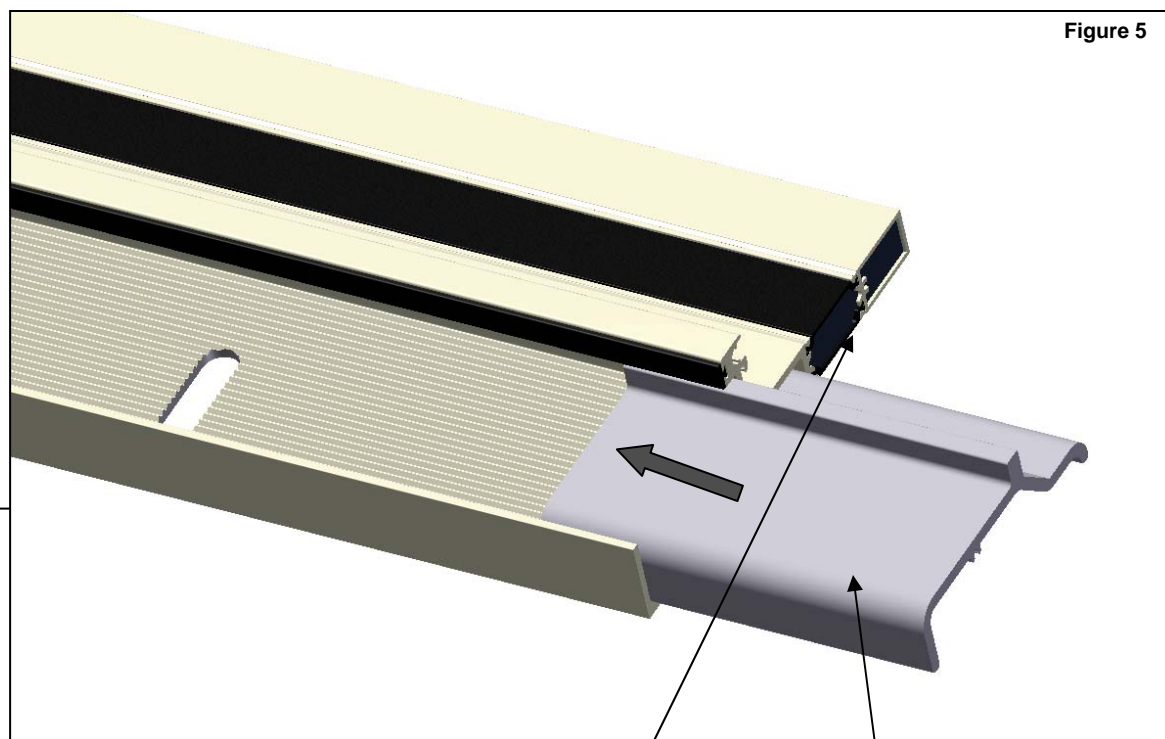

Figure 5
- d. A static loading clip (FM45) is required at each jamb and intermediate vertical. Two are required at corner mullion conditions (FM46 and FM47). The anchors are used to transfer end load reactions from the verticals into the anchoring system. Before installation of the static starter sill, slide the appropriate number of static loading clips into each section of starter sill. See Figures 5 and 6.